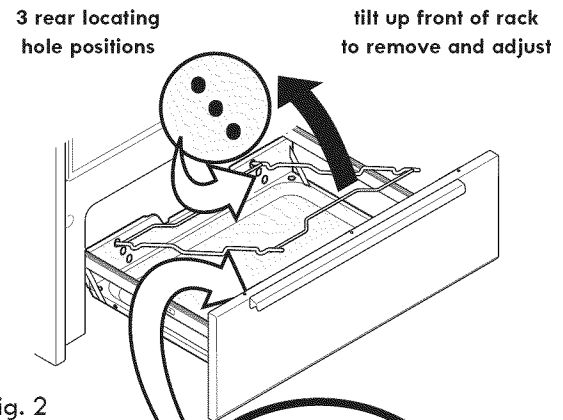

Fig. 2
4. If needed, change broiler rack position by tilting front of rack up & pulling rack completely out from locating holes in rear of broiler drawer (See Fig. 2). Reposition back of rack in one of 3 locating holes and allow front of rack to slide down into the corresponding slots in front of broiler drawer (Fig. 3). Be sure rack is level before broiling.